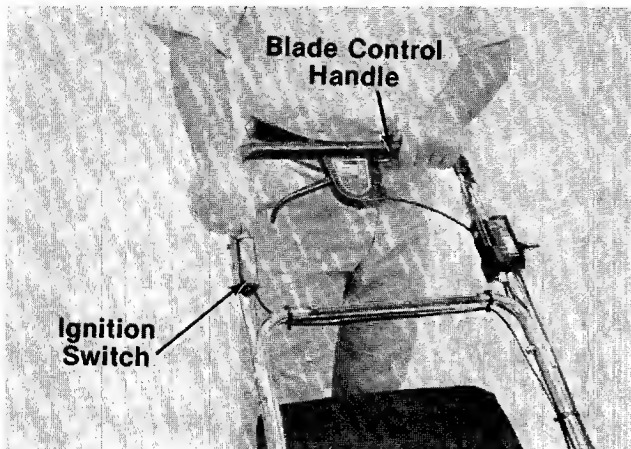

FIGURE 23.
2. Standing behind the unit, depress the blade control handle and hold it against the upper handle as shown in figure 23.